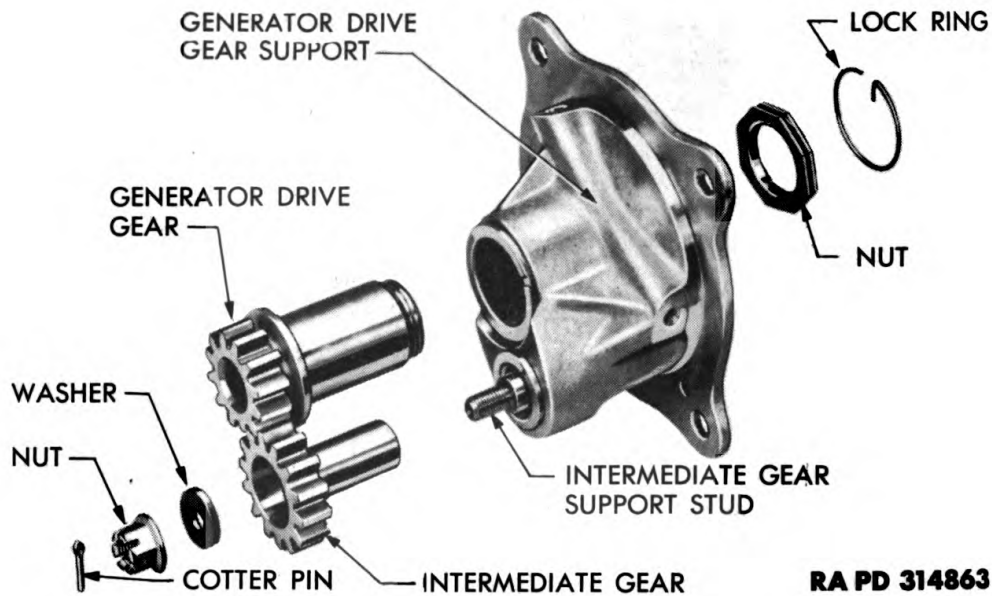

Figure 186 – Generator Drive Gear Support – Disassembled
56. GENERATOR DRIVE GEAR SUPPORT (fig. 186).